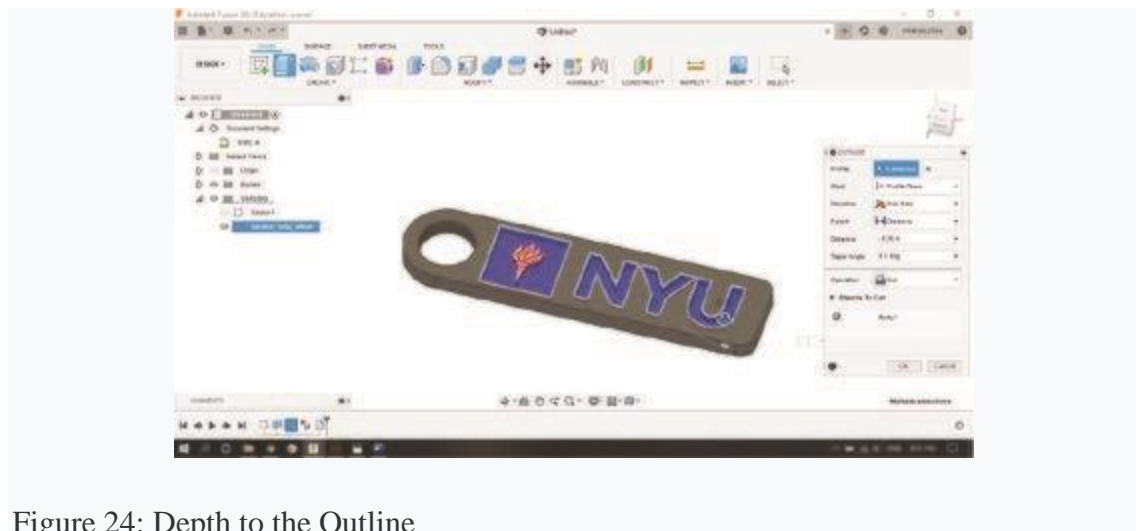

Figure 24: Depth to the Outline
- v. The final model is shown in Figure 24.